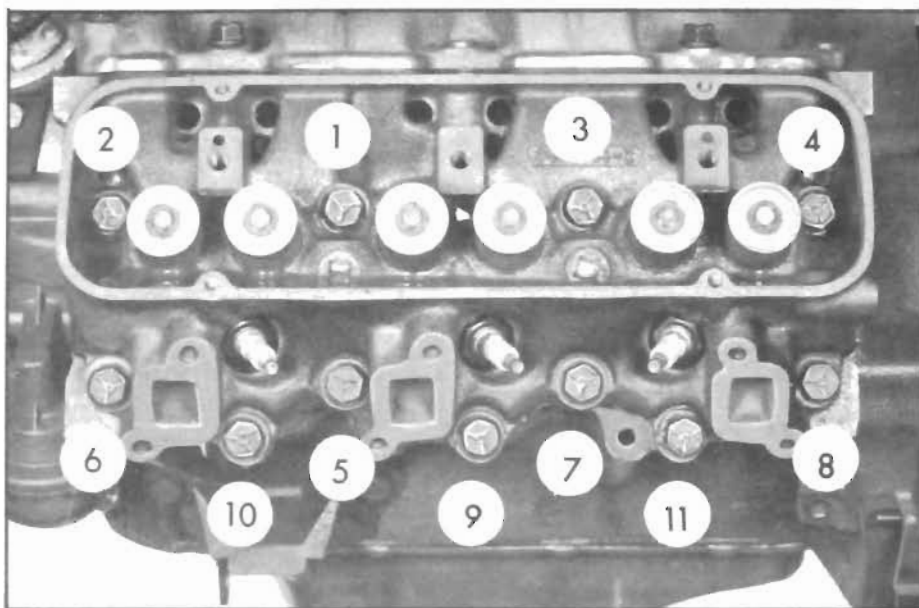

Figure 2-14—Cylinder Head Bolt Tightening Sequence
6. Tighten the head bolts a little at a time about three times around in the sequence shown in Figure 2-14. Give bolts final torque in same sequence. Torque to 70-75 ft. lbs.